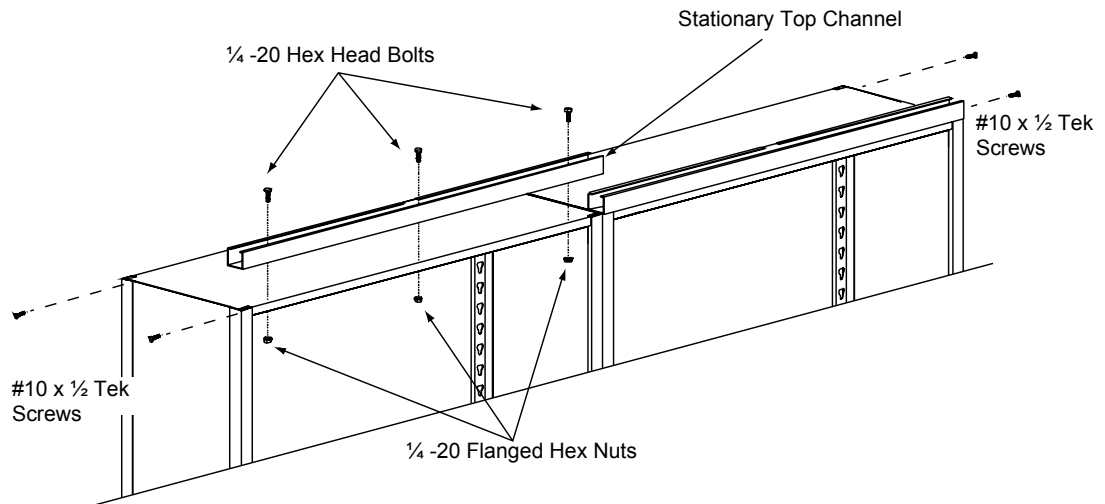

FIGURE 1
- STEP 2** Attach the Stationary Top Channels to the tops of the stationary shelving sections. Position each channel flush and even with the sides and front of each of the top shelf sections and drill three (3) 5/16 diameter clearance hole in the top shelves. Attach the channel by using three (3) 1/4-20 x 3/4 hex head bolts and secure using the 1/4 - 20 flange nuts. Repeat this step for each rear stationary section. Using the #10 x 1/2 Tek screws, fasten the top shelf to the upright posts. **See Figure 1.**